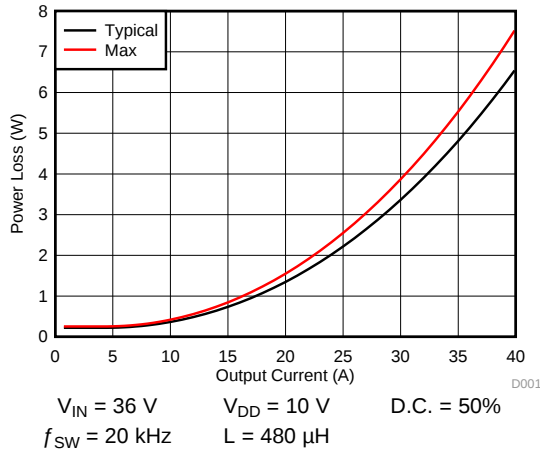
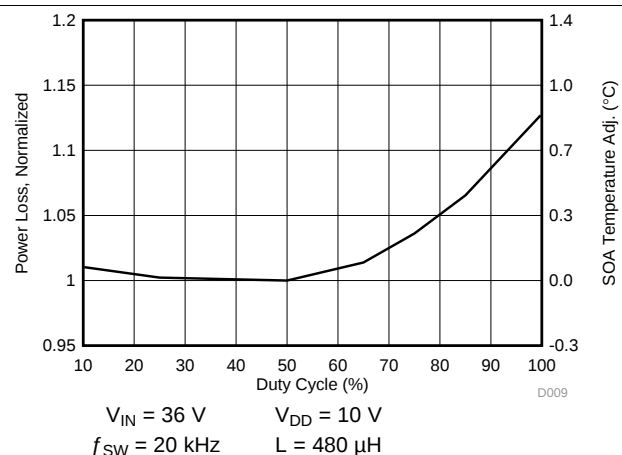

Figure 1. Power Loss vs Output Current
Figure 6. Normalized Power Loss vs Duty Cycle
The typical power block system characteristic curves (Figure 1 through Figure 6) are based on measurements made on a PCB design with dimensions of 4 in (W) × 3.5 in (L) × 0.062 in (H) and 6 copper layers of 1-oz copper thickness. See Application and Implementation section for detailed explanation. $T_J = 125^\circ\text{C}$, unless stated otherwise.
Figure 1 plots the CSD88599Q5DC power loss as a function of load current. The measured power loss includes both input conversion loss and gate drive loss.
In the example below, we show how to achieve this for the temperatures $T_C = 124^\circ\text{C}$ and $T_B = 120^\circ\text{C}$. First we draw from 40 A on the Y-axis at 124°C to 120°C on the X-axis. Then, we draw a line up from where this line crosses the T_X line to see that this line intercepts the SOA at 34 A. Thus we can assume if we are measuring a PCB temperature of 124°C , and a top case temperature of 120°C , the power block can handle 34-A RMS, at the normalized conditions. At conditions that differ from those in Figure 1, the user may be required to make an SOA temperature adjustment on the T_X line, as shown in the next section.
- Power loss at 30 A $\approx$ 3.4 W (Figure 1)
- Normalized power loss for duty cycle $\approx$ 1.12 (Figure 6)
- SOA adjustment for duty cycle $\approx$ 0.7°C (Figure 6)